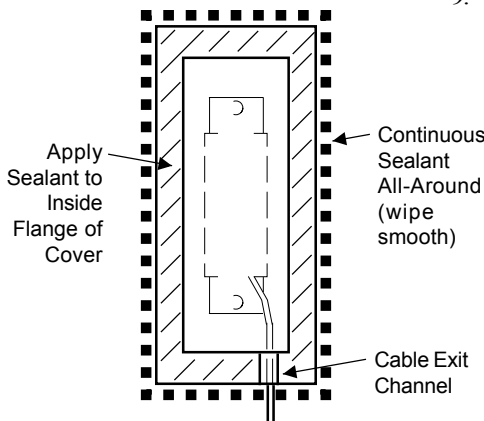

Figure 6-14. Environmental Cover
9. See Figure 6-14. Apply a generous bead of sealant to the inside flange of the environmental cover. Add extra sealant to the cable exit channel and between cable and support.